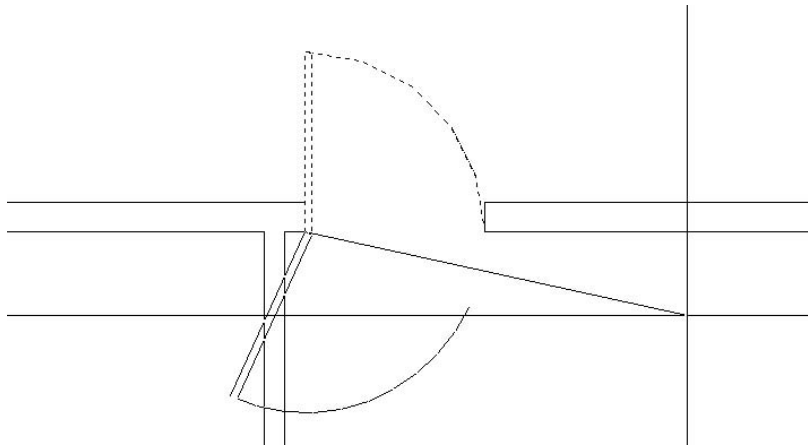

FIGURE 4.35: The mirror image moves as the mirror line rotates.
3. Activate the Endpoint Osnap, and then pick the hinge point of the door. The prompt changes to read **Specify second point of mirror line:**, and you will see the mirrored image of the door and the swing moving as you move the cursor around the drawing area. You are rotating the mirror line about the hinge point as you move the cursor. As the mirror line rotates, the location of the mirrored image moves (see Figure 4.35).